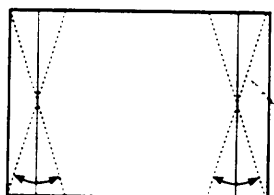

Fig 6.
- d: Adjust the E-W TRAPEZOID to obtain condition as in fig. 6.